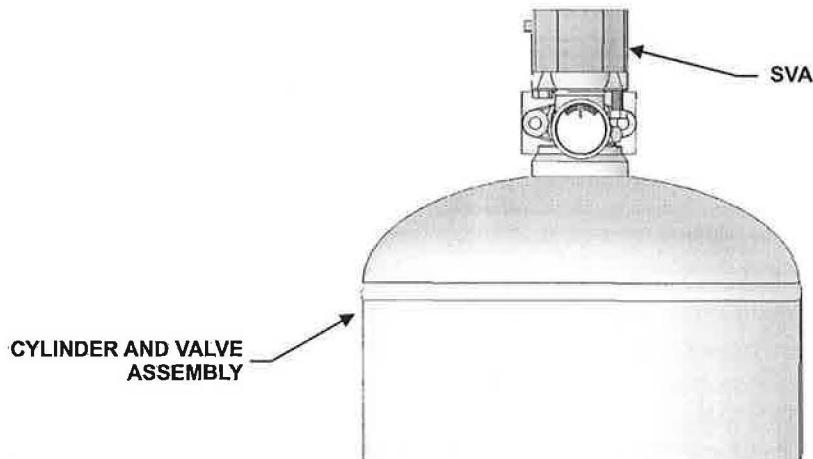

Figure 5-19. System Valve Actuators
5. Remove the System Valve Actuators from all cylinders. See Figure 5-19 for location.